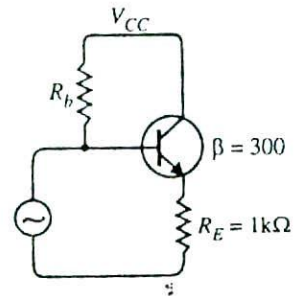

Fig. 15.29
7. In Fig. 15.29, if input and output impedances without feedback are $2\ \text{M}\Omega$ and $500\ \Omega$ respectively, find their values after negative voltage feedback. [(i) 302M Ω (ii) 1.6]